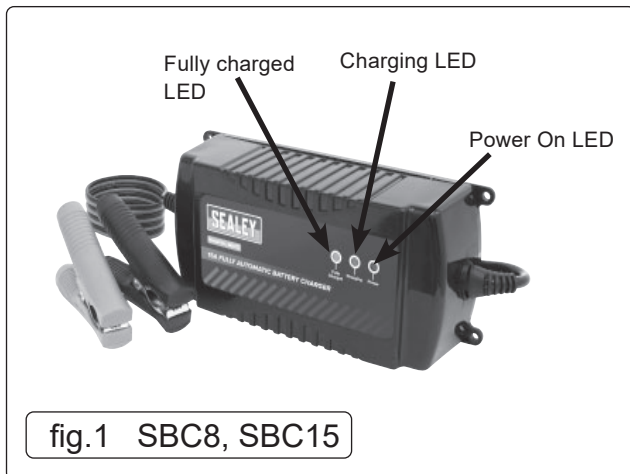

fig.1 SBC8, SBC15
4.5.1. Plug the charger into the power supply and switch on. The LEDs on the front of the chargers (fig.1) will indicate 'Power', Charging' or 'Fully Charged'.